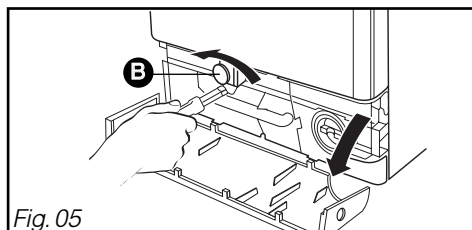

Fig. 05
- Using a 10 mm wrench, unscrew the "front" brace maintenance screw **B** made from red plastic (Fig. 05).